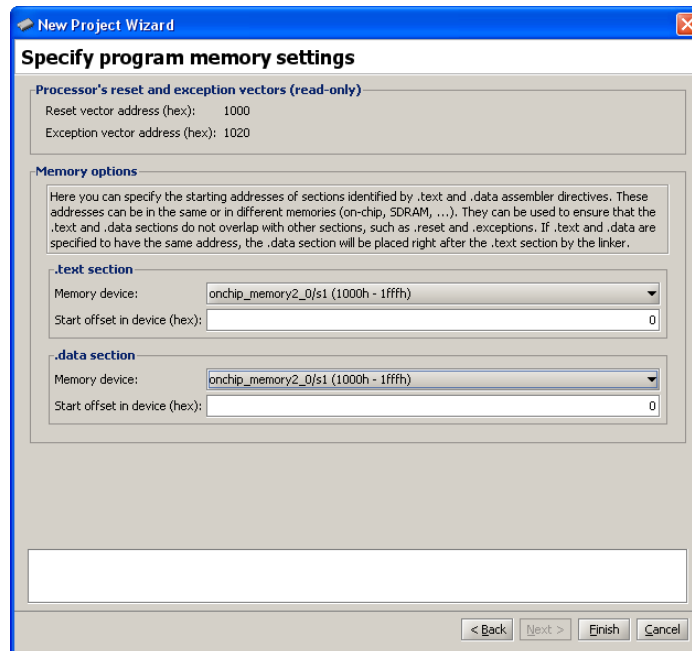

Figure 25. The program memory settings window.
10. The Altera Monitor Program also needs to know where to load the application program. In our case, this is the memory block in the FPGA device. The SOPC Builder assigned the name *onchip\_memory2\_0* to this block. As shown in Figure 25, the Monitor Program has already selected the correct memory device.